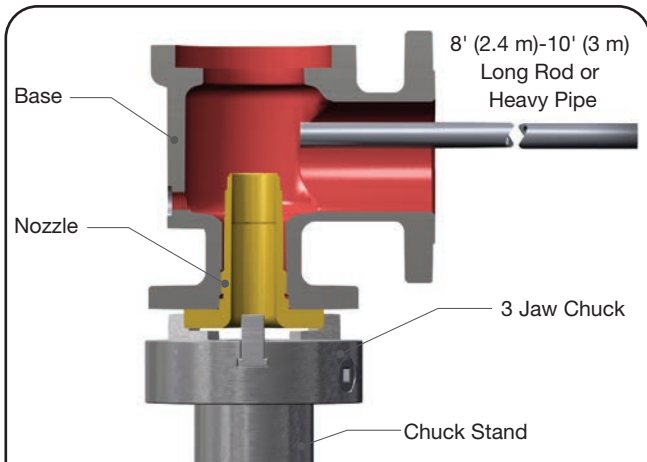
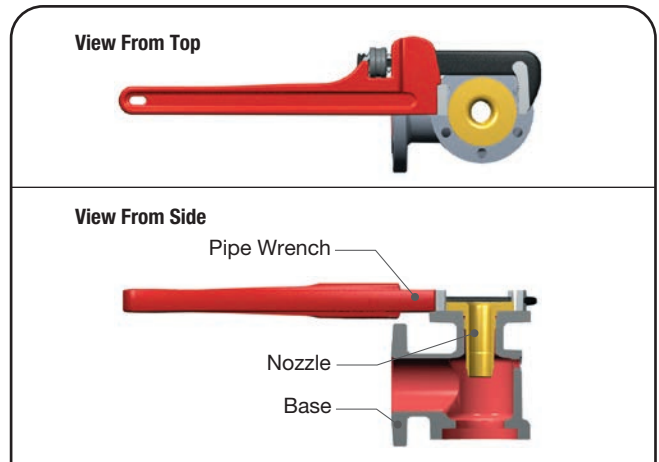

Figure 16: Loosening the Nozzle from the Base
Figure 17: Removing the Nozzle from the Base
17. Using a three- or four-jaw chuck welded vertically to a stand bolted to a concrete floor, clamp the nozzle into the chuck and break the body loose with a heavy rod or pipe (Figure 17).
18. Use a large pipe wrench on the nozzle flange to remove the nozzle from the base (Figure 16).
19. Remove the Nozzle from the Valve Base as suggested in Figure 16, or by using a Hex wrench or a pipe wrench on the flange as indicated in Figure 17.